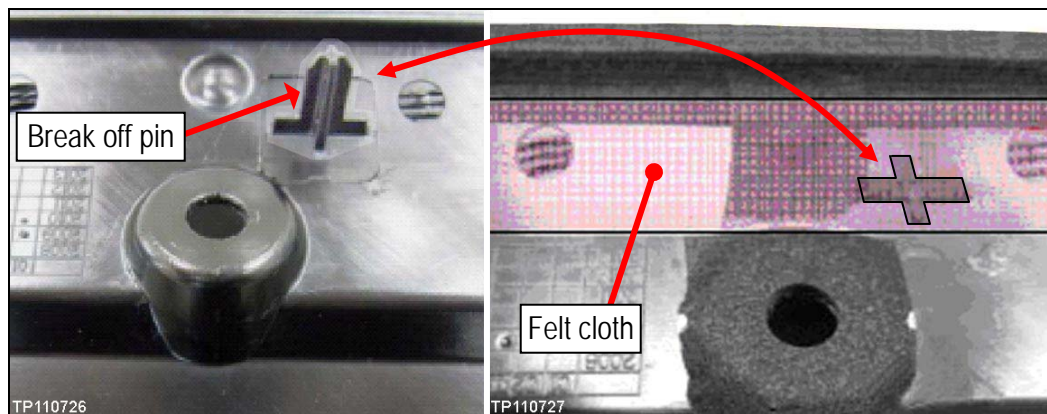

Figure 25
27. Break off flush the locator pin, and then apply a piece of felt cloth tape where broken off (see Figure 25).